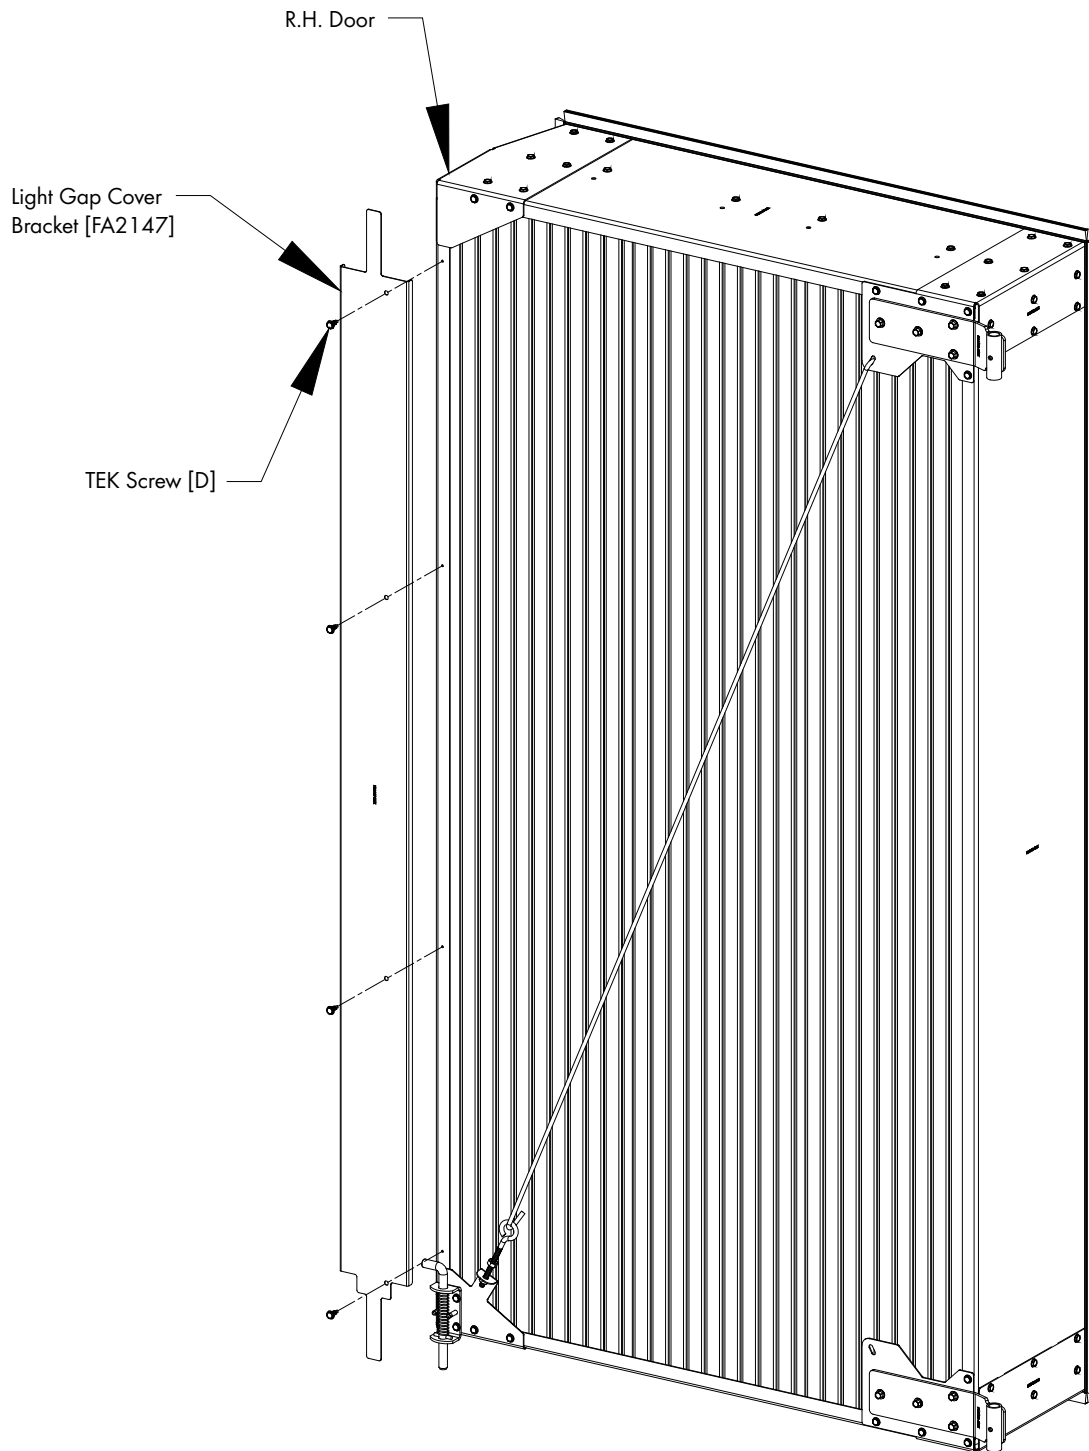

Figure 23
Attach the Light Gap Cover Bracket [FA2147] to the left inlet edge of the R.H. Door and fasten in place using (4) TEK Screws [D]. *See Figure 23.*